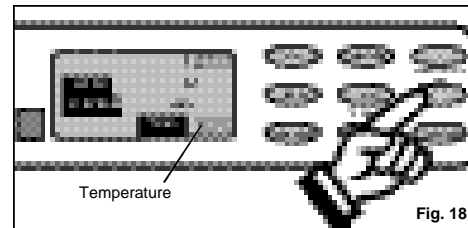

Fig. 18
- 3) Press the appropriate Δ or ∇ key to set a dehumidifying temperature between 10°C (50°F) to 30°C (88°F). *Fig. 18*. The **green** indicator light will come on indicating the dehumidifying mode is operational (there may be a slight delay of 10-30 seconds before the cycle begins, this is normal).